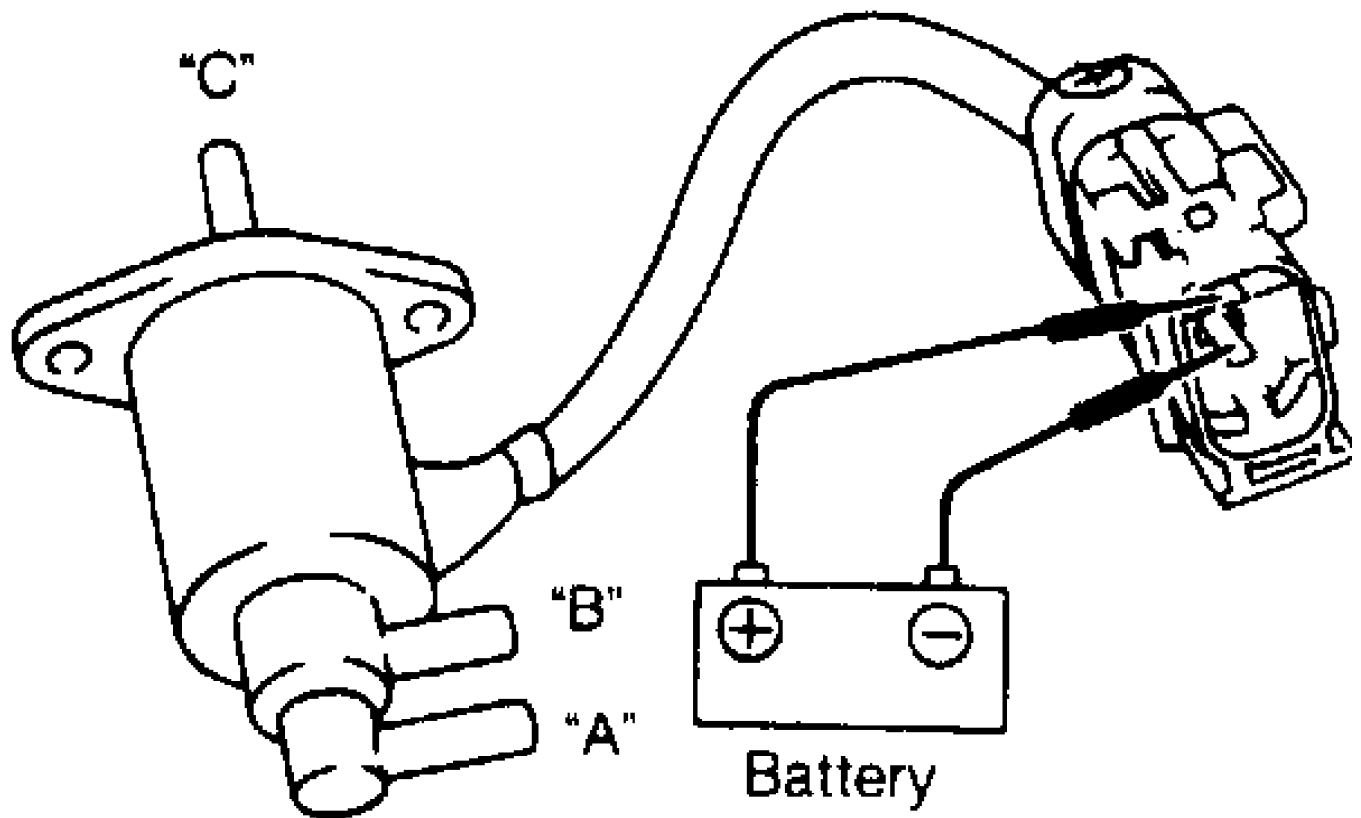

Fig. 28: Typical Control Solenoid (EGR, PAIR, PRVR & SCV)
1) Disconnect vacuum lines and electrical connector from solenoid. Remove solenoid. Using hand-held vacuum pump, apply vacuum to port "B" of solenoid. See Fig. 28. Vacuum should now be available at port "C", but not at port "A".
1) Disconnect vacuum lines and electrical connector from solenoid. Remove solenoid. Connect hand-held vacuum pump to vacuum port "B" of solenoid. See Fig. 28. Apply vacuum. Vacuum should now be available at port "C", but not at port "A".